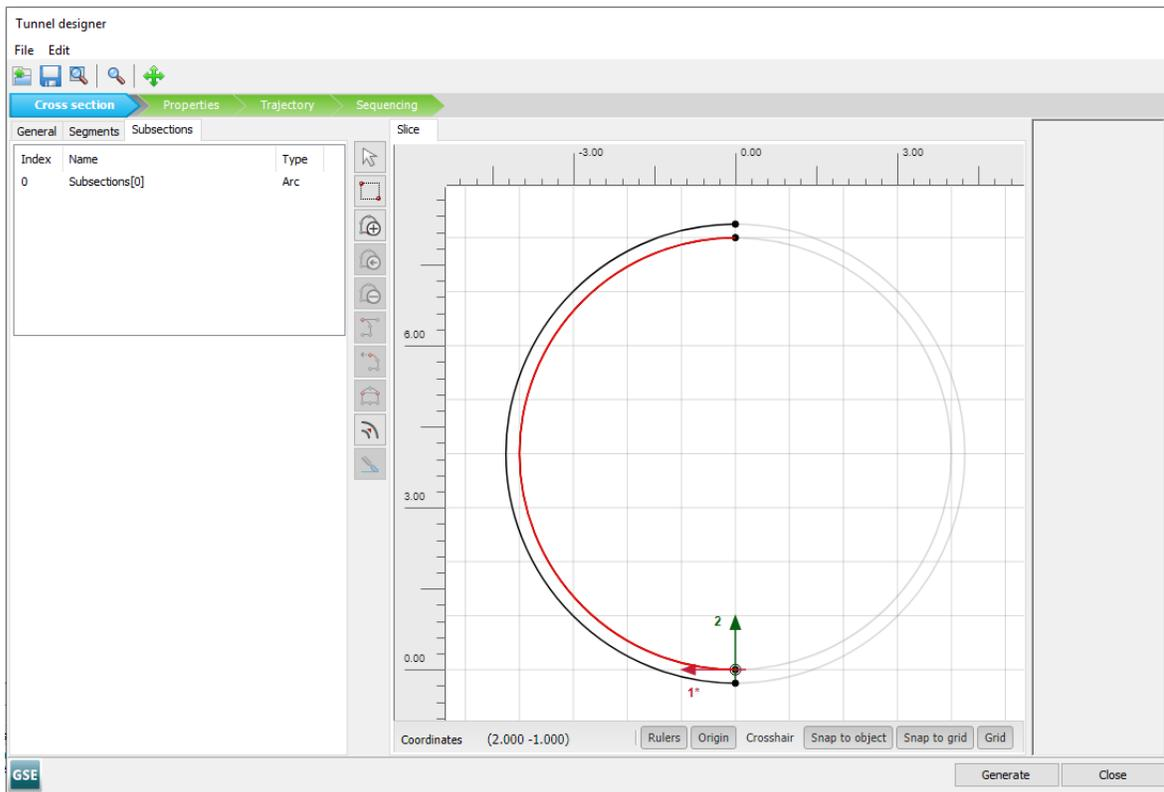

Figure 72: The Cross section tabsheet of the Tunnel designer
11. Assign a value of 0.25 m and click **OK**. A screenshot of the **Cross section** tabsheet after the proper assignment is given in Figure 72 (on page 99)